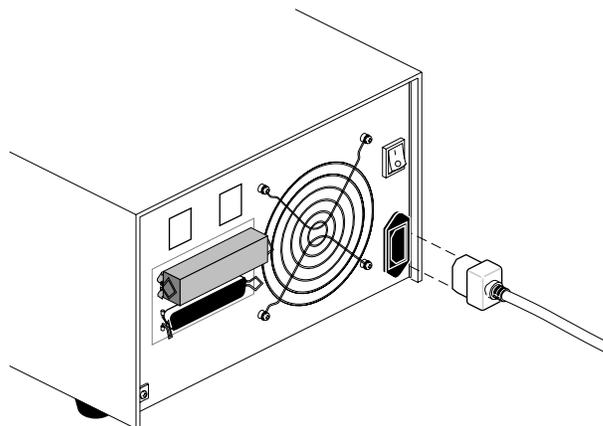

Figure 4-5 Attaching the Power Cord to the Desktop DLT Drive Chassis
1. Connect the socket end of the cord to the power connector on the back of the desktop DLT drive chassis (see Figure 4-5).